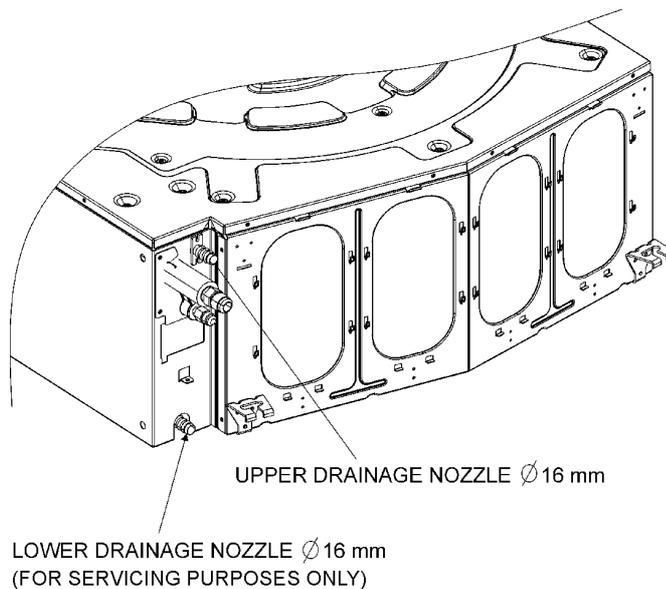

Fig. 13. Drainage connectors  $\varnothing$  16 mm
- C. The MD unit includes a drainage pump with level control, which can elevate condensation water to a level of up to 60 cm from the unit’s lower level. The drainage tube is connected to the upper drainage nozzle (see Fig. 13).